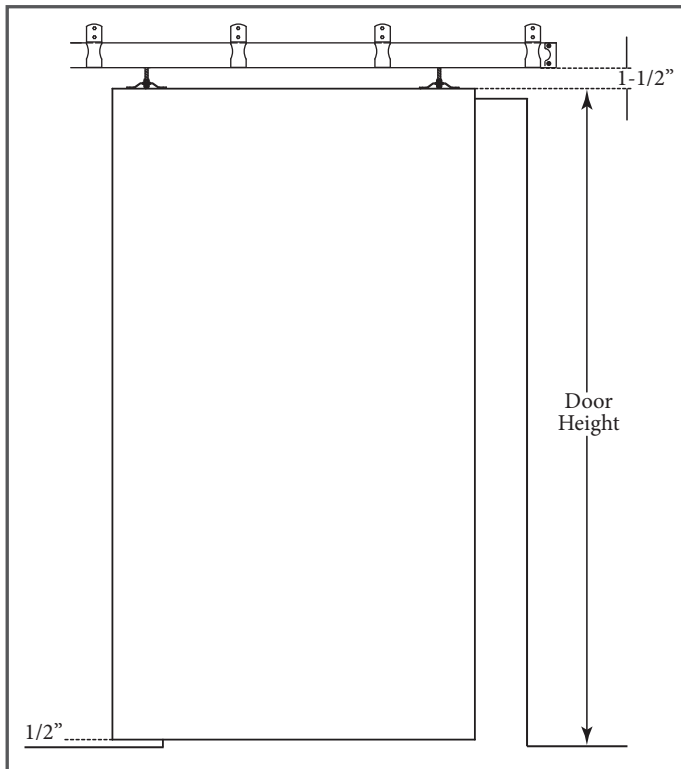

Figure 1
1. To determine where the track should be installed, first measure the height of the door, then add 2" to the door length. 1/2" will be for the clearance between the bottom edge of the door and the floor. 1-1/2" will be from the top of the door to the bottom of the track. (Figure 1).